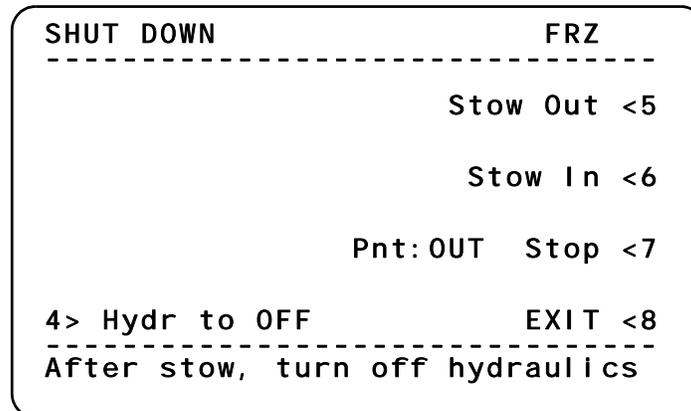

Figure 15 SHUT DOWN menu
3. From the MAIN menu, press the SHUT DOWN <7 key to display the SHUT DOWN menu (Figure 15).